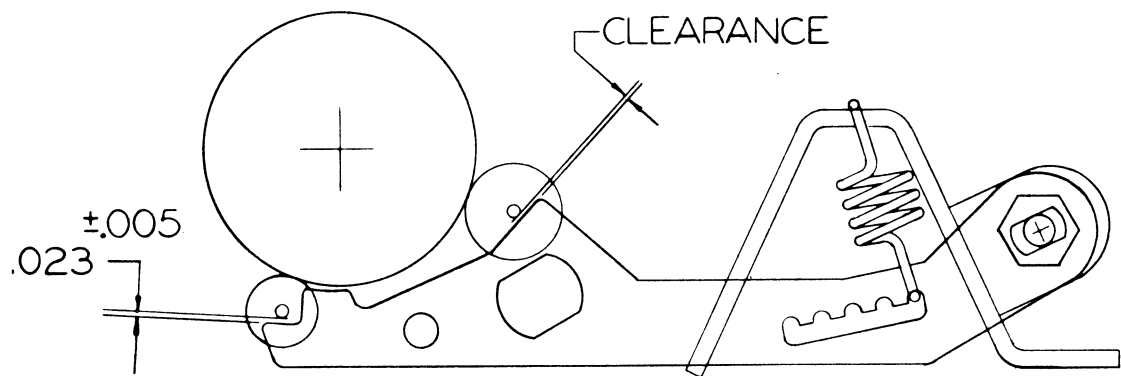

FIGURE 7-8
Refer to Figure 7-8, which shows the mechanical details of one of the feed roller levers. There are four such arms in the printer. Note that the arm is anchored at a single pivot point (the hexagonal screw shown in the diagram), and that the feed rollers attached to this lever are held in place against the platen roller by spring tension. The object of the depth adjustment is to shift the anchor points of the four individual arms, relative to the platen, so that the feed rollers contact the platen evenly at the proper points.
With reference again to Figure 7-8, observe that the individual feed rollers are mounted on shafts which rotate in the journals of four crescent-shaped metal carriers (not shown in the diagram). Each crescent, in turn, is attached to one of the feed roller levers at a point midway between the two roller shafts. The crescent is therefore free to rock about the pivot point, distributing the tension of the retaining spring evenly between the two individual rollers.
- (1) Use two wrenches to loosen the anchor of the rightmost feed roller arm. Loosen the adjustment just enough to permit shifting the anchor with the pressure of your fingers.
- (2) Push the feed roller arm all the way toward the front of the printer. Then use your screwdriver blade as a lever to move the anchor backwards, until the clearance is correct. Use a 0.023" feeler gauge to verify the dimension. See Figure 7-8.
- (3) When the proper clearance is achieved, use your wrenches to retighten the anchor.
- (4) After locking the adjustment, re-check the critical clearance, to be sure that it is correct.
- (5) Repeat Steps #1 through #4 at each of the three remaining anchors, in turn. This completes the depth adjustment.